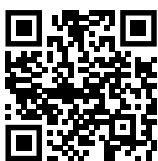

Fig. 147
- Avage Liebherr SmartMonitoring Dashboard. (vt. Fig. 147)